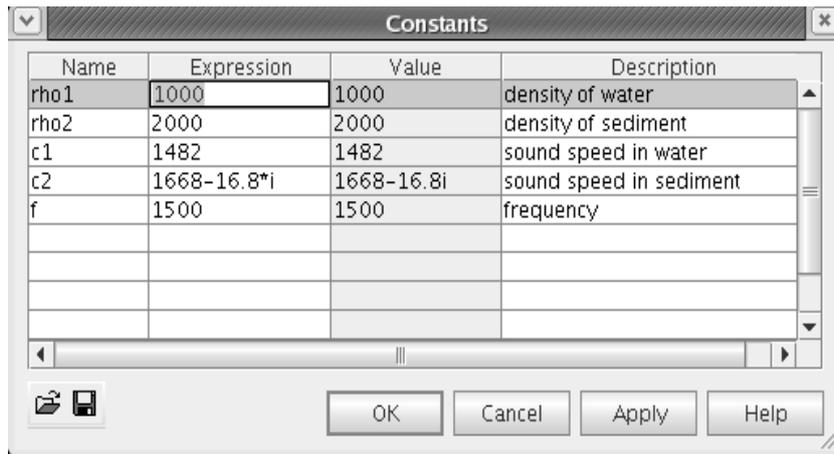

Figure 3: Constants.
- Click the COMSOL menu Options > Constants, and fill Constants window as Fig. 3.